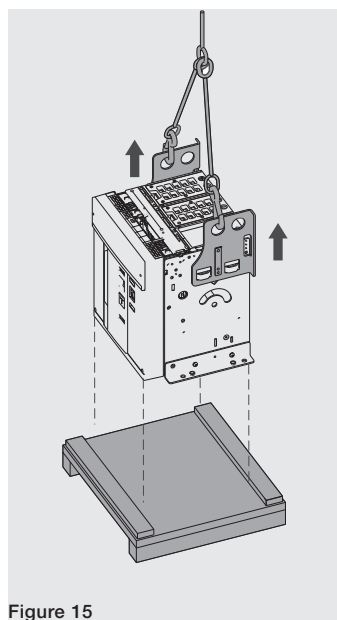
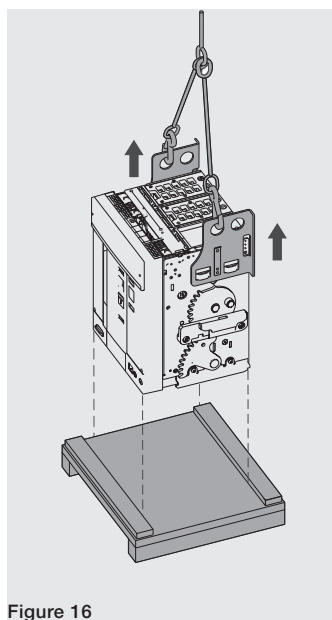

Figure 15
Figure 16
1. Raise the circuit-breaker from the base of the packaging with the aid of the lifting plates supplied with the circuit-breaker. See Figure 15 and Figure 16.